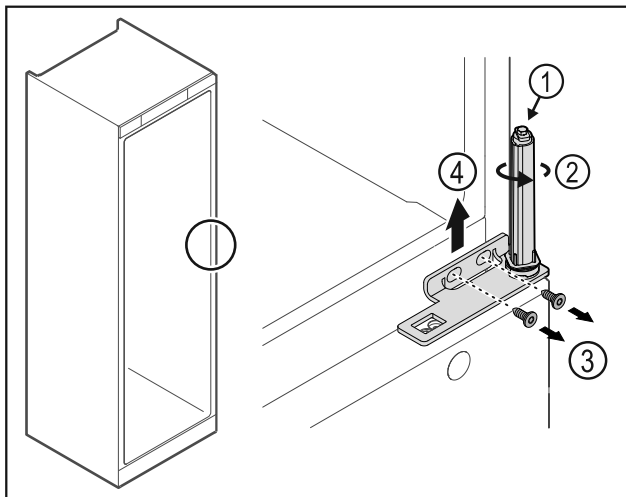

Fig. 32
- ▶ Do not disassemble the door closing system Fig. 32 (1).
- ▶ Turn the closing system Fig. 32 (2) until it clicks.
- ▶ Loosen the screws Fig. 32 (3) and lift off the hinge Fig. 32 (4).